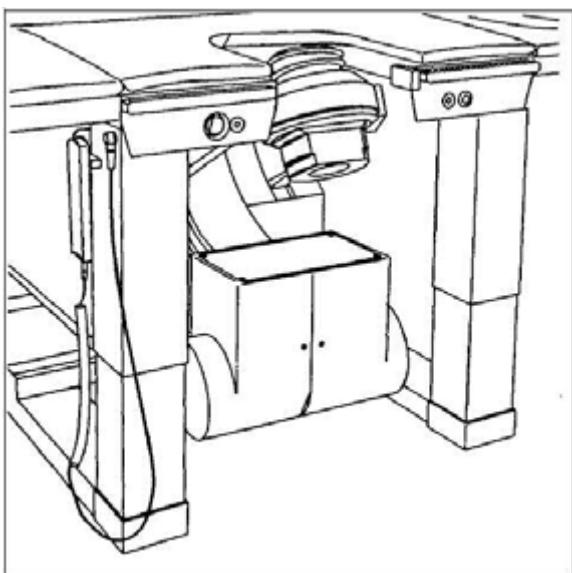

Fig. 22: Lifting column
- Remove all covers of the lifting column affected (\(Fig. 22 / p. 57\))